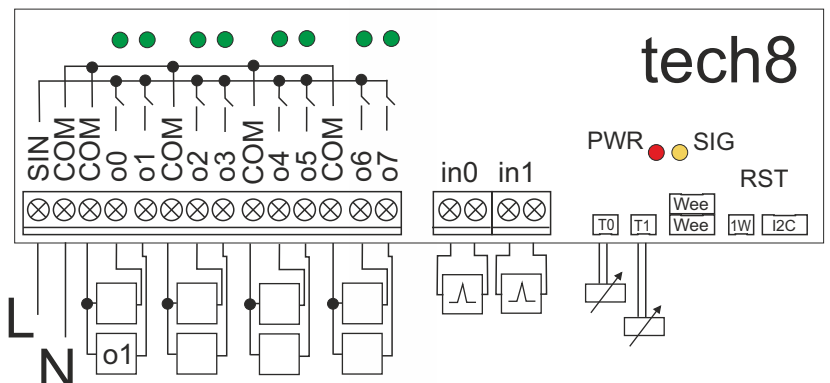

Fig. 1 Connection diagram Connector Tech 8
1. Note of the card PIN and Serial Number (SN) device (Both located on the housing of the device)
2. Connect the cables Sn, Com, o0..O7 according to figure 1